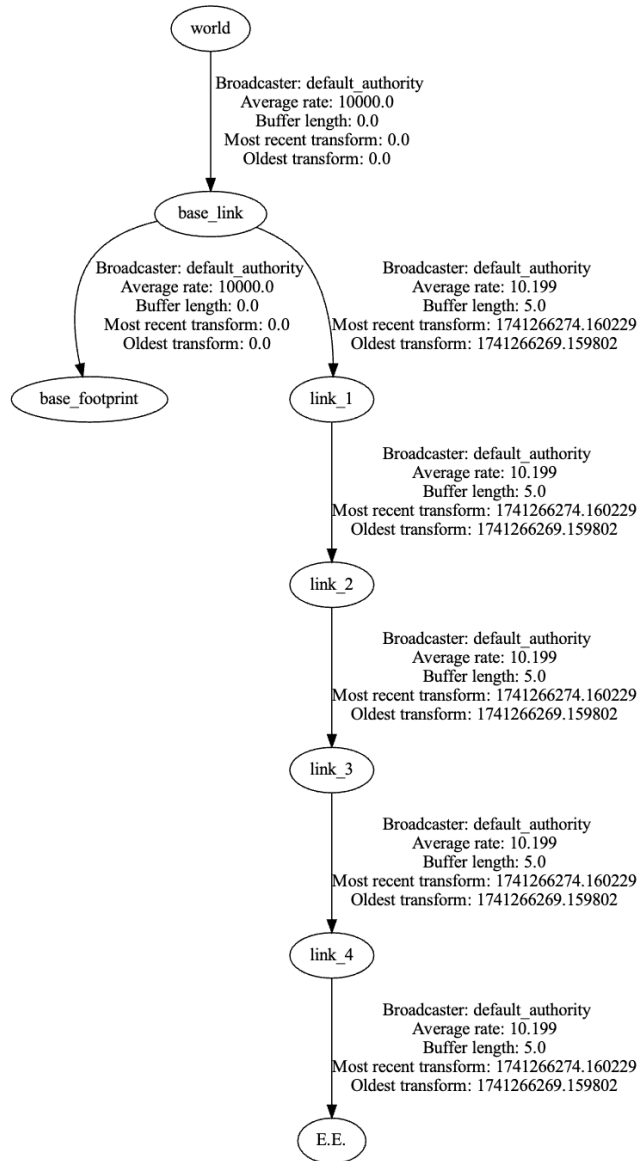

Figure 3: Link relationships within the model.
4. **Robot Simulation Implementation:** The **Dobot Magician Lite** model was successfully simulated (Figure 1). Using **Rviz2**, we obtained the coordinates of each joint (Figure 2) and visualized the **link relationships** (Figure 3).